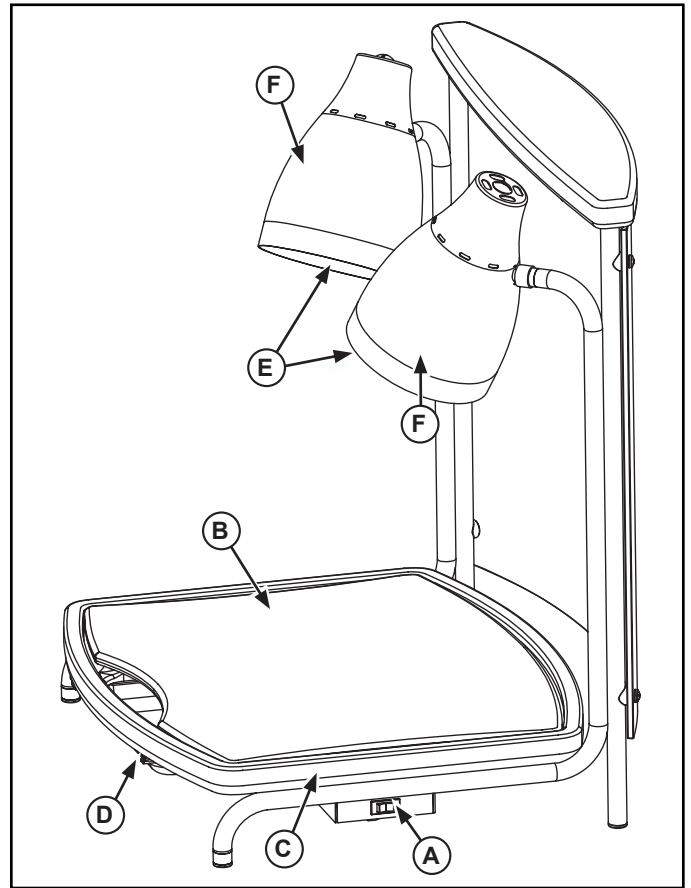

Figure 2. Features and Controls.
1. Set the Contoured Carving Station into the upright position as shown in Figure 2.
2. Insert the cutting board base (C) cutting board (B) and drip pan (D) components as shown in Figure 2.
1. Turn the on/off power switch (A) to the "OFF" position. See Figure 2.
3. Remove the cutting board (B), cutting board base (C), and drip pan (D). See Figure 2.
5. In a clean basin or sink, in a solution of clean warm water and correctly diluted food compatible sanitizing solution soak and wash the cutting board (B), cutting board base (C), and drip pan.
6. Remove the parts from the basin or sink and allow them to air dry. Or, wash the cutting board (B), cutting board base (C), and drip pan in a commercial dishwasher.
3. Remove the heat lamp (E) by unscrewing it from the heat lamp shade (F). Use only heat lamps that are shatter resistant. Vollrath recommends: